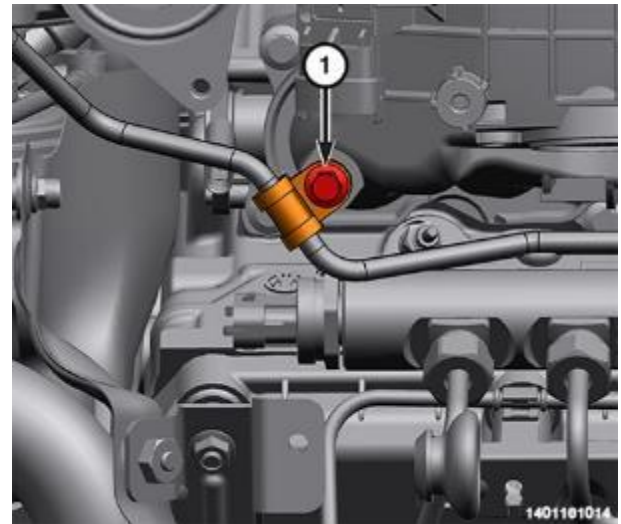

Figure 115 – Crossover Tube Bolt
46. Remove the fuel crossover tube bolt (1) (Figure 115).